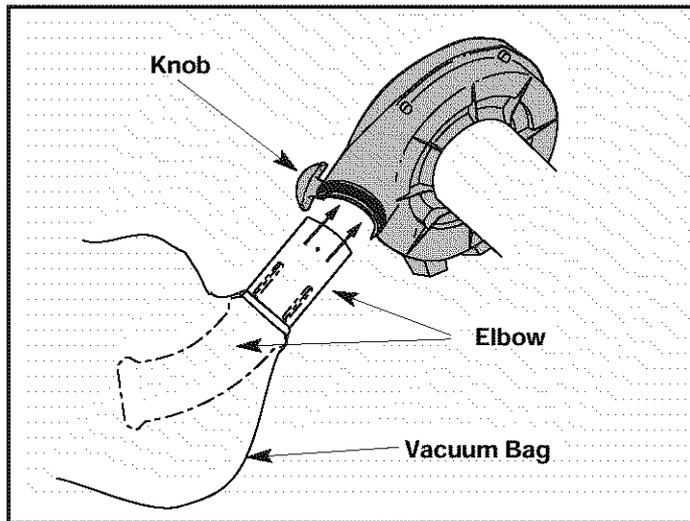

Fig. 1
3. Install the bag elbow and tighten the knob clockwise. (Fig. 1)